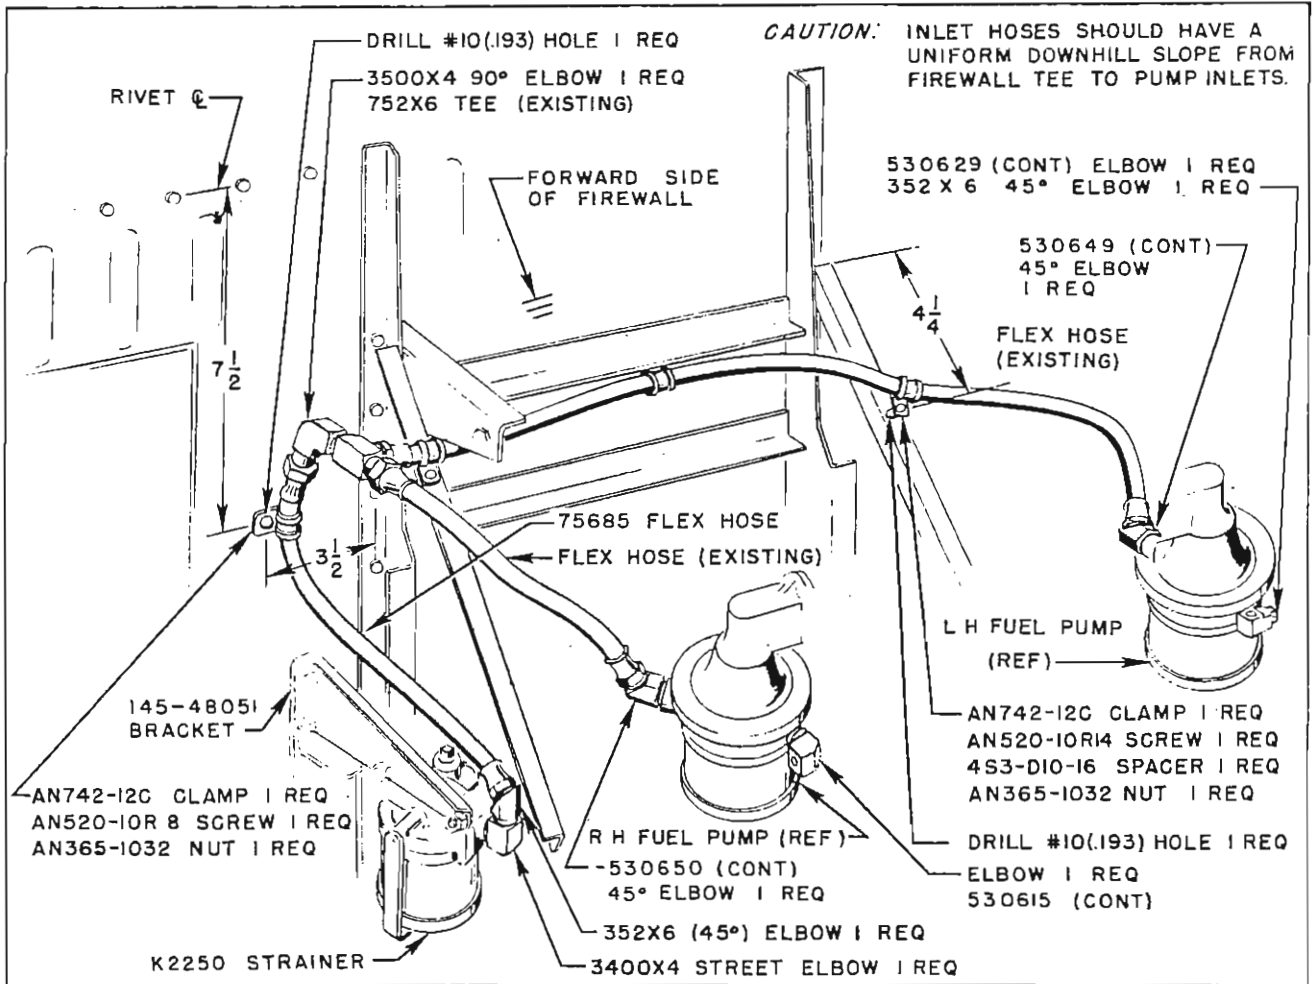

FIGURE 1 - RELOCATION OF FUEL LINES
3. Install the following parts in sequence, as listed: 3400 x 4 elbow in fuel strainer, 352 x 6 (45°) elbow, 75685 hose, 3500 x 4 (90°) elbow, and the previously removed 752 x 6 tee. See Figure 1.
5. Secure the upper end of 75685 flexible hose to the firewall using an AN742-12C clamp, AN520-10R8 screw, and AN365-1032 nut. See Figure 1. Drill No. 10 (.193) hole.
6. Drill a No. 10 (.193) hole in the left hand diagonal firewall brace and secure left pump fuel hose with an AN742-13C clamp, a 4S3-D10-16 spacer between the clamp and brace and an AN520-10R14 screw and AN365-1032 nut. See Figure 1 for location of hole.